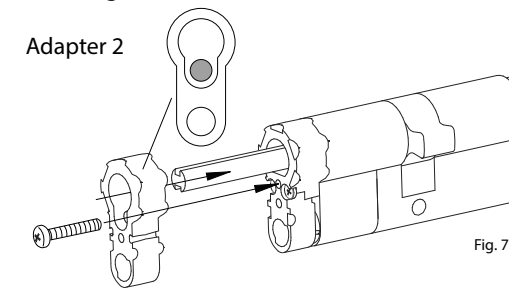

Fig. 7
- 54 - 59 mm = Adapter 1 and 2 required (Fig. 7)